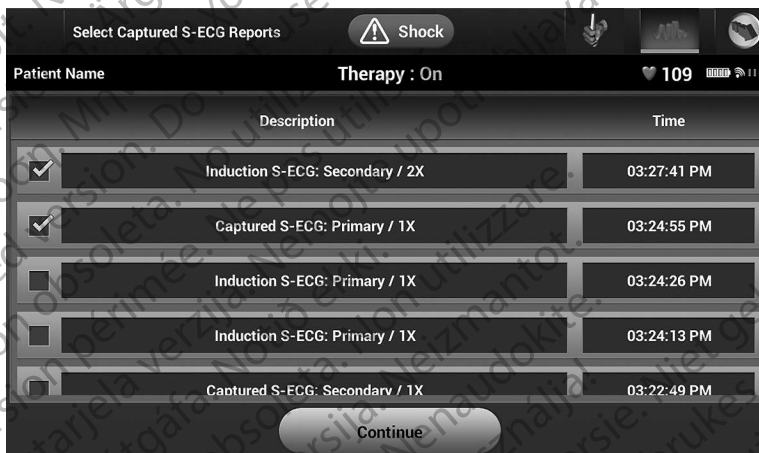

Figure 19: Captured S-ECG list (scrollable)
2. A scrollable list containing both Captured S-ECG and Induction S-ECG strips is displayed (Figure 19). Select the desired S-ECG(s) to be printed by placing a checkmark next to the selection(s).